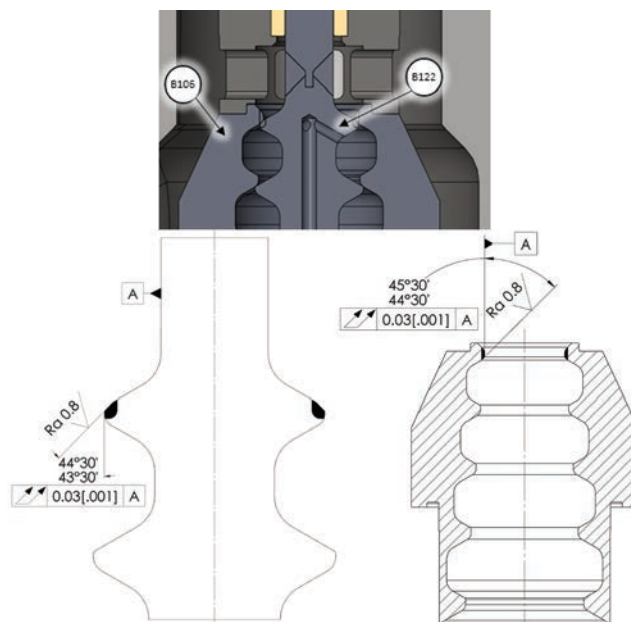

Figure 18: Seat Lapping
Seating surfaces may need to be lapped in order to restore the necessary surface integrity to meet valve leakage requirements. Prior to lapping ensure the plug and seat ring seating surfaces are free from large scratches or dents. Remachining of these surfaces may be necessary. If so a maximum of .015" (0.4mm) metal removal from both the plug and seat seating surfaces is allowable for any valve size. Seating Surfaces Make sure the seating angles on the reworked parts are within the specified tolerances as shown in Figure 18. Parts requiring more metal removal to restore should be discarded and replaced.
24. After lapping, disassemble the parts to clean them and then reassemble, making sure the seating angles are within tolerance as shown in Figure 18.
25. Gasket seating surfaces must be free of dents, scratches, corrosion, or other types of damage. Clean mating surfaces as required and replace any non-conforming parts. Spiral wound gaskets (items 7, 8 and 34 for top entry designs) must always be replaced after disassembly.